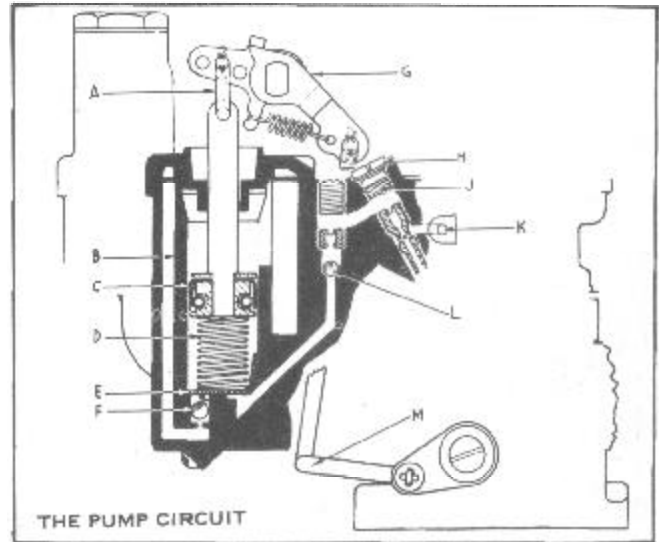

Figure 24--Pump Circuit Duplex Carburetor Models 41,43,44,45,47
The pump circuit consists of the pump cylinder (B), Figure 24, pump plunger (C), intake valve (F), discharge valve (L), strainer screen (E), pump jet (J) and plunger spring (D) and external air bleed to the pump jet (K).